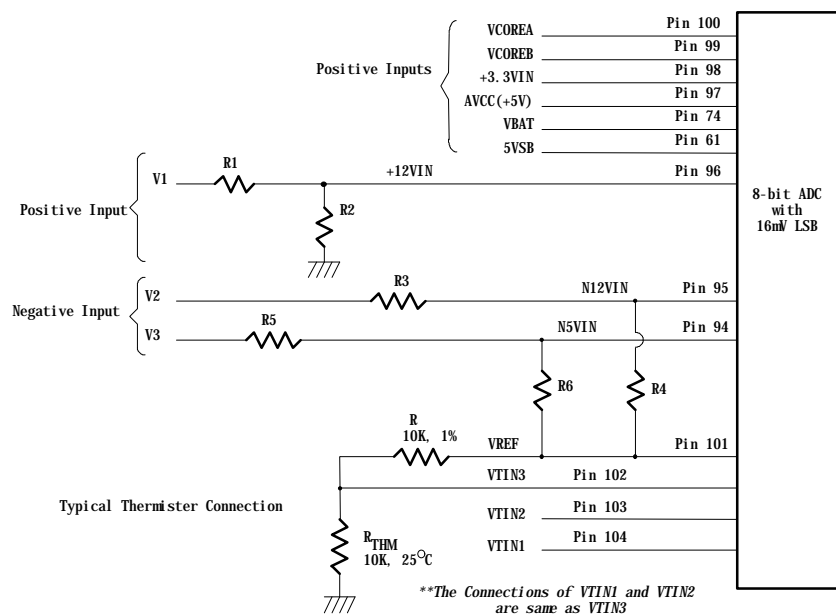

Figure. 11.2
The maximum input voltage of the analog pin is 4.096V because the 8-bit ADC has a 16mV LSB. Really, the application of the PC monitoring would most often be connected to power suppliers. The CPU V-core voltage, +3.3V, battery and 5VSB voltage can directly connected to these analog inputs. The +12V, -12V and -5V voltage inputs should be reduced a factor with external resistors so as to obtain the input range. As Figure 11.2 shows.
The negative voltage should be connected two series resistors and a positive voltage VREF (is equal to 3.6V). In the Figure 11.2, the voltage V2 and V3 are two negative voltage which they are -12V and -5V respectively. The voltage V2 is connected to two serial resistors then is connected to another terminal VREF which is positive voltage. So as that the voltage node N12VIN can be obtain a posedge voltage if the scales of the two serial resirtors are carefully selected. It is recommanded from Winbond that the scale of two serial resistors are R3=232K ohms and R4=56K ohm. The input voltage of node N12VIN can be calculated by following equation.
The W83627HF can connect three thermistors to measure three different environment temperature. The specification of thermistor should be considered to (1) β value is 3435K, (2) resistor value is 10K ohms at 25°C. In the Figure 11.2, the themistor is connected by a serial resistor with 10K Ohms, then connect to VREF (Pin 101).